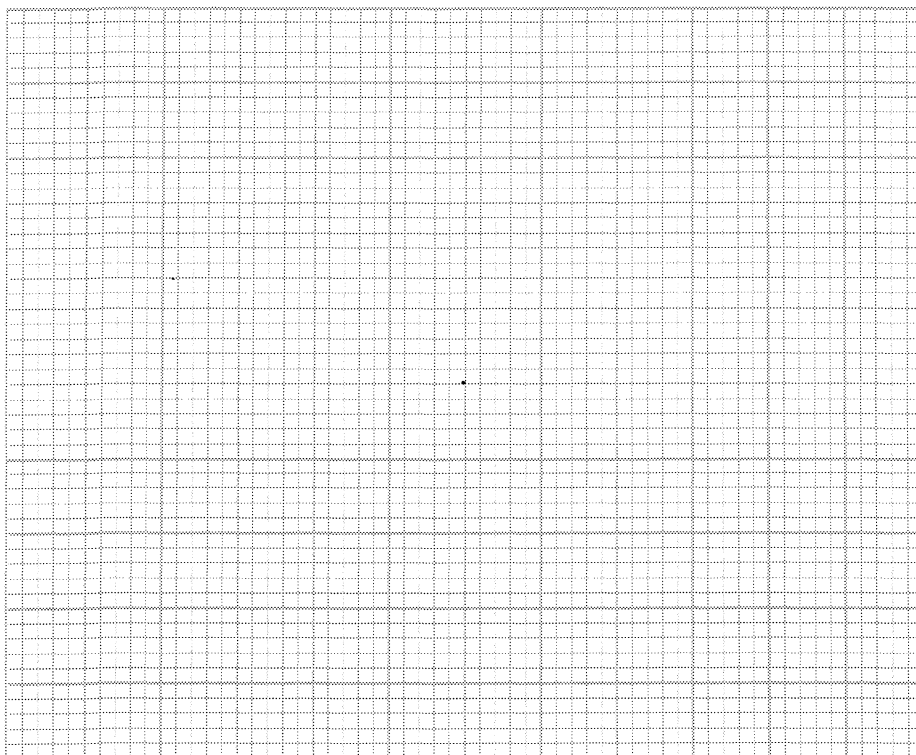

Figure 12.5 Polarity testing of final sub-circuits
- Draw the circuit arrangement for performing the test in Figure 12.5.